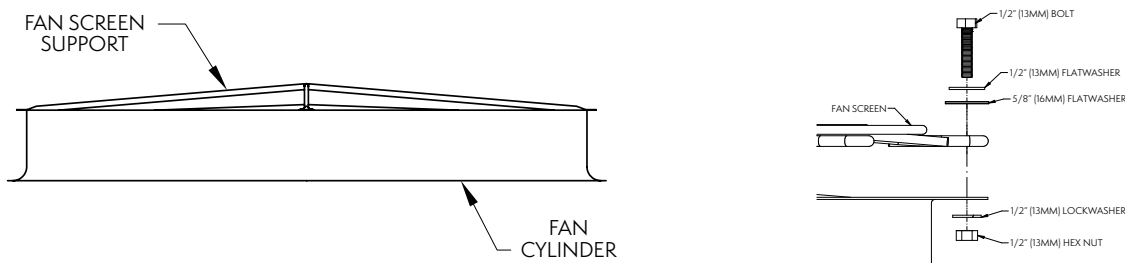

Figure 11 – Fan Screen Support & Fan Screen Installation
1. Set the fan screen support across the top of the fan cylinder as shown in **Figure 11**.
4. At each hole, attach the fan screen to the fan cylinder as shown in **Figure 11**.